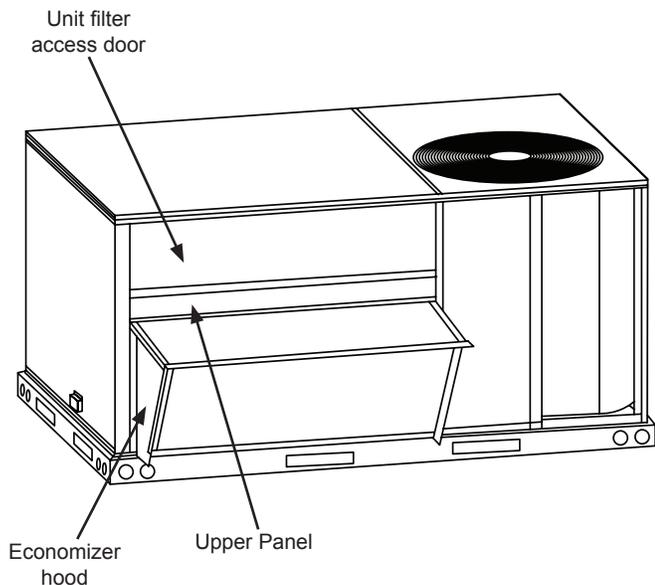

Figure 9
6. Screw hood to unit as shown in figure 9.